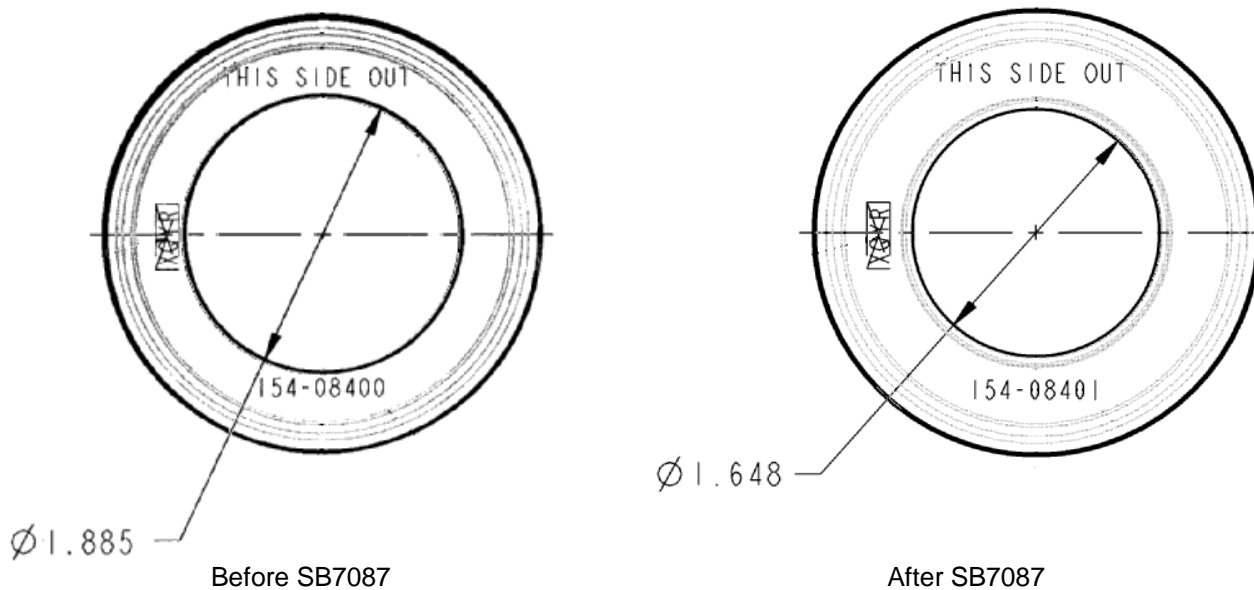

Figure 1
- 4) All 40-424 wheels verified as being equipped with the P/N 154-08401 grease seal per SB7087 may be returned to service (ref. Figure 1 (after)).
- 5) If inspection indicates that the 154-08400 grease seal is installed (ref. Figure 1 (before)), contact Pilatus Business Aircraft, Broomfield, Colorado, or Parker Hannifin, Aircraft Wheel & Brake Service Center to obtain grease seal kit SB7087-1 listed in MATERIALS Section of this Service Bulletin.